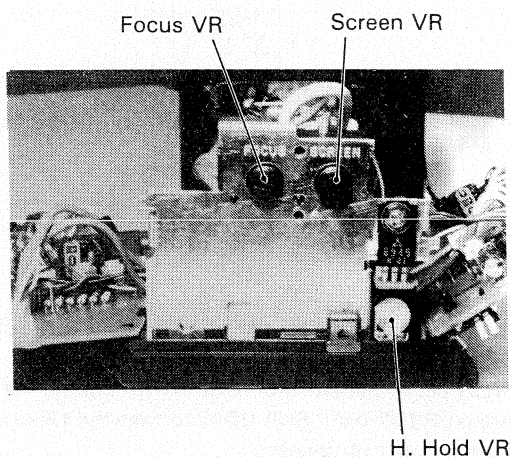

Fig. 2-6
- 3) Turn the green cutoff VR (R705) fully clockwise and the red and blue cutoff VRs (R706, R704) fully counter-clockwise. Adjust the screen VR (Fig. 2-6) so that the vertical green band becomes easy to see.
- 2) Turn H. hold VR counterclockwise when the picture is slanting to the right and clockwise when slanting to the left. (see Fig. 2-6).